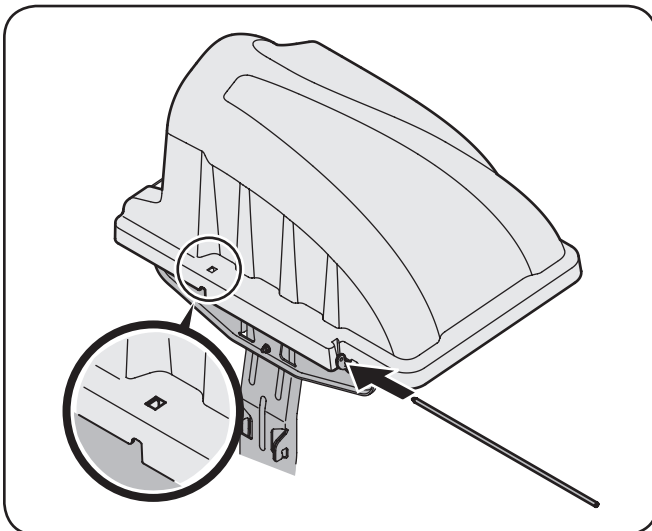
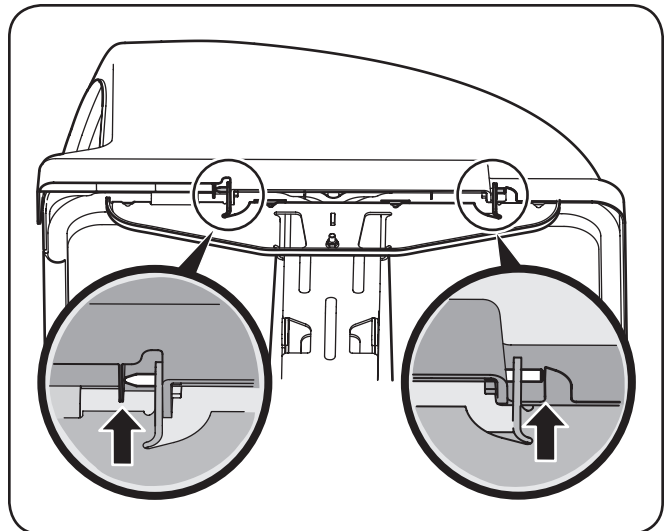

Figure 4-14
Figure 4-15
4. Slide the hinge pin into the hole located on the mounting tab, as in Figure 4-14. Use the cut-out window (See inset in Figure 4-14) to line up the hinge pin on the other side and push pin all the way in until it reaches the end-stop. At this point the pin clips into place and is secured by a tab in the bagger cover. See Figure 4-15.